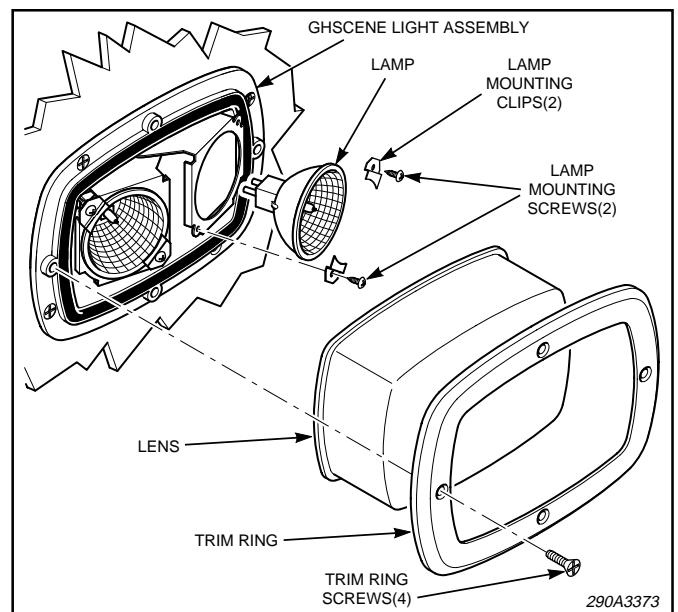

Figure 3.
b. See figure 3. Remove and retain the four screws which secure the trim ring and lens. Carefully pull the trim ring and lens straight away from the flush mount light assembly.